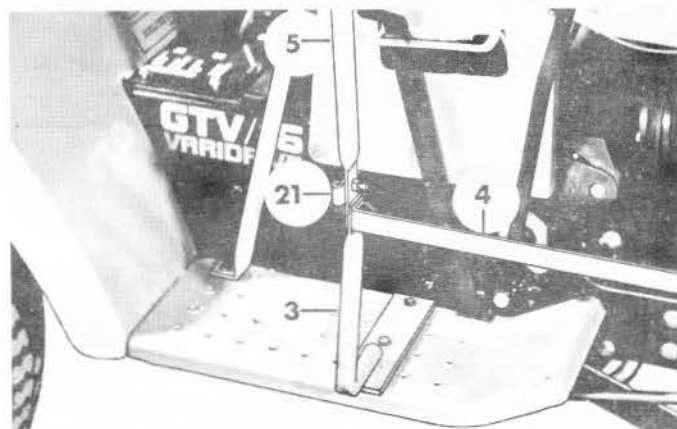

FIGURE 10
STEP 9: SEE FIGURE 10:
A. Pass a BOLT (22) forward thru lower hole of PART 5, then thru upper end of PART 3, then thru PART 4. Add a NUT (20) and tighten.
B. Pass a BOLT (22) thru PART 21 and then thru second hole from lower end of PART 5. Add a NUT (20) and tighten.